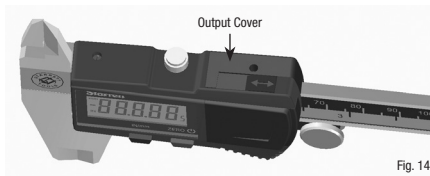
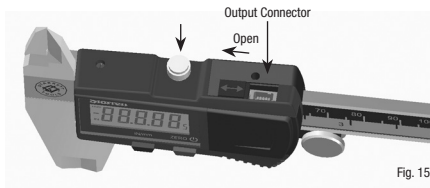

Fig. 14
Fig. 15
- The EC799B Series caliper comes with an output port (14) that allows data transmission to computers or printers using the appropriate Starrett cable/ adapter or Starrett DataSure® wireless interface.
- The output connection is at the top of the caliper pointed out in Fig.14. The output cover slides open, place your finger into the small area with the arrows and push towards the slide locking screw (8) pointed out in Fig.15. When not using an output cable remember to keep this cover closed, so that no debris collects in the output, possibly interfering with data collection from your tool.
- The output command is controlled by the "IN/mm" button (13).